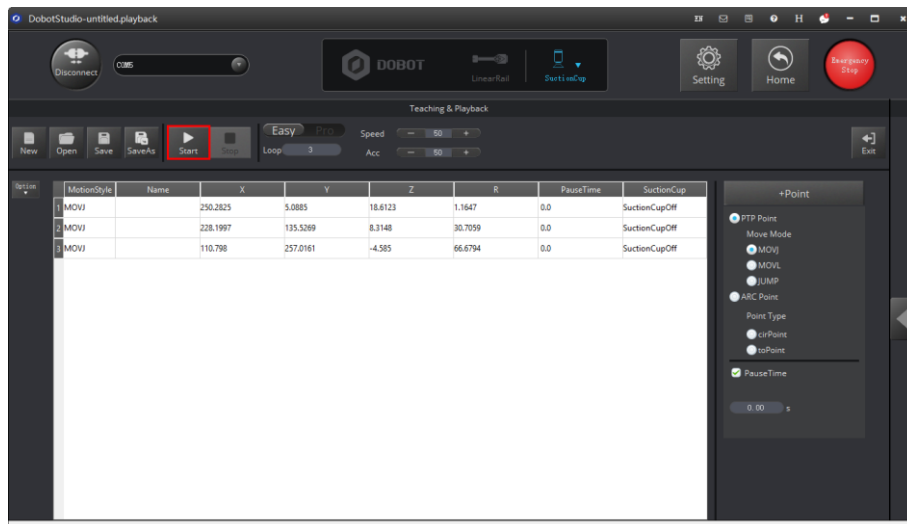

Figure 2.24 Click Start
6. Click **Start** to perform the motions taught above, as shown in Figure 2.24. The robotic arm will stop after playing back the steps for three times.